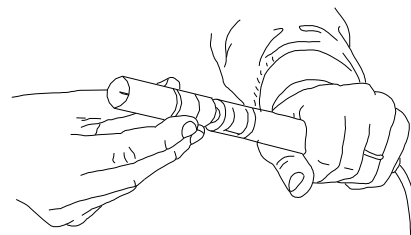

Figure 1c. Bleed the transfer fluid by gently tightening the transfer nipple. Make sure that the O-ring seals inside the plexiglass adapter.
- Screw the transfer nipple into the plexiglass adapter only until the O-ring seals inside the adapter (figure 1c). Make sure that a few drops of water bleed through the needle. Between individual measurements, the bleeding through the needle shall be repeated by gradually screwing the transfer nipple into the plexiglass adapter.